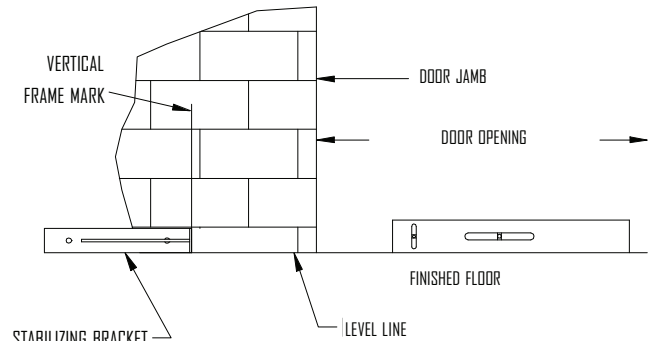

FIG.3A
- Place bracket on its side, flush to wall along top of level line, extending away from door opening (Fig. 3a).